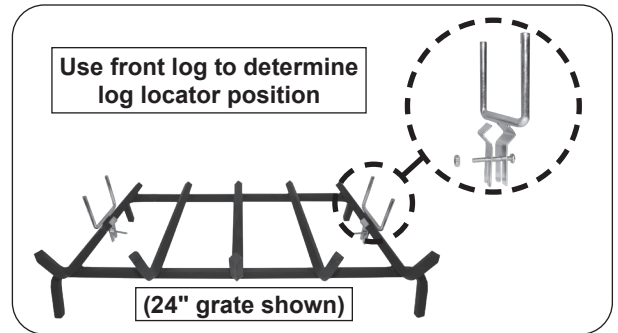
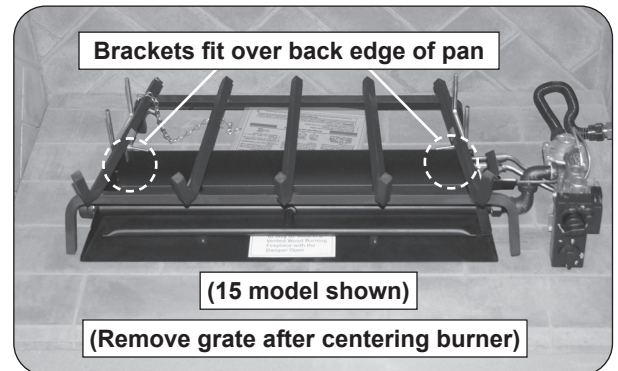
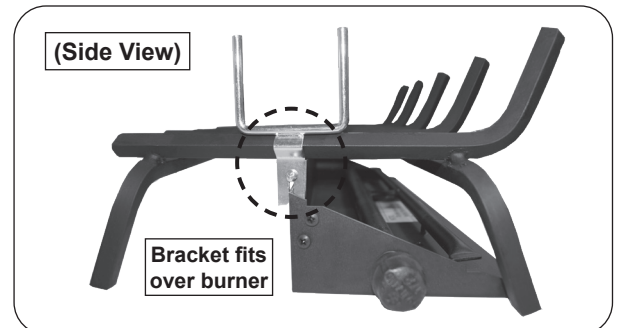

Fig. 17-1 Attach log locators to grate
Fig. 17-2 Position grate
Fig. 17-3 Grate placement detail
1. Locate the grate (outside of the fireplace) and attach the log locators to the 2 outer bars of the grate using the provided screws and nuts (see Fig. 17-1 and Fig. 17-3).
The log locators should be loosely positioned toward the middle of the outer bars and oriented as shown in Fig. 17-1. Temporarily place the front log at the front of the grate, to correctly determine the log locator position. Slide the log locators up against the rear of the front log. Tighten the log locators in place. Remove the front log.
2. Position the grate over the burner pan (in fireplace) so the log locator brackets fit over the back edge of the pan to lock it in position. Ensure the assembly is centered from left to right. See Fig. 17-2 and Fig. 17-3.